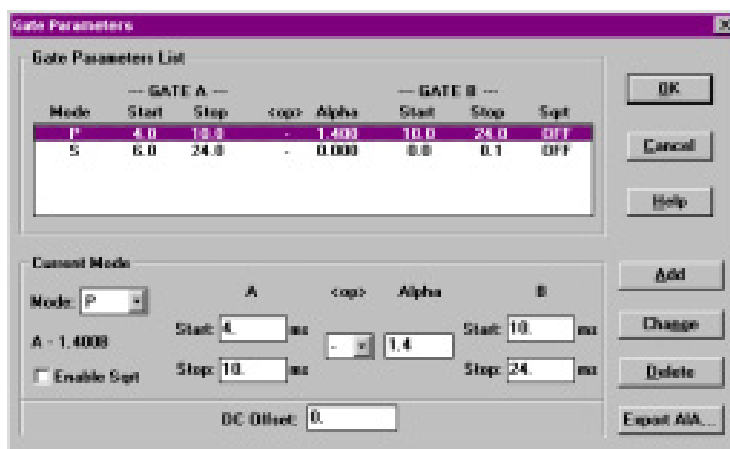

Figure 5.6. Gate Parameters Screen
- In the Gate Parameters List, select the desired gate mode to be exported as an AIA file (see Figure 5.6). One of the modes in the Gate Parameters List must be selected to activate the Export AIA button.